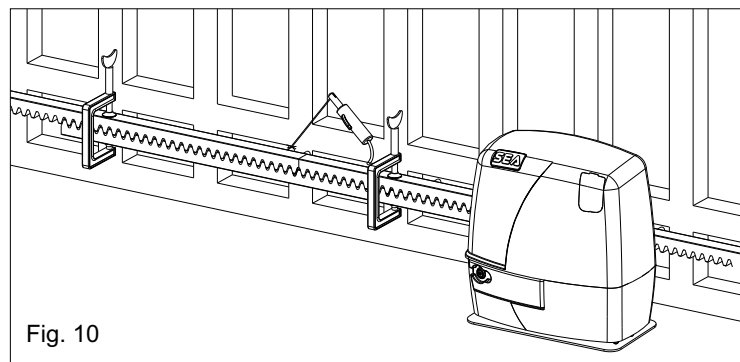

Fig. 10
5.4. Make sure that all the gear rack elements are perfectly aligned and placed correctly (teeth in phase). It's suggested to place two aligned elements in front of a third one as shown in Fig. 10;